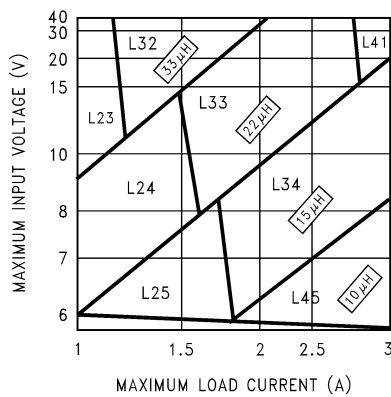
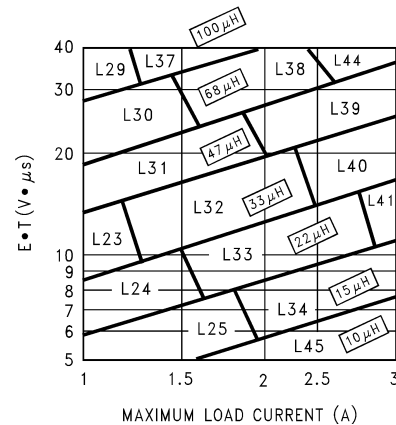

Figure 21. LM2676-3.3
Figure 24. LM2676-ADJ
Step 3: Determine the inductor required by using one of the four nomographs, Figure 21 through Figure 24. Table 1 provides a specific manufacturer and part number for the inductor.
Step 5: Determine an input capacitor from Table 8 or Table 9 for fixed output voltage applications. Use Table 3 or Table 4 to find the specific capacitor type. For adjustable output circuits select a capacitor from Table 3 or Table 4 with a sufficient working voltage (WV) rating greater than $V_{in\ max}$, and an rms current rating greater than one-half the maximum load current (2 or more capacitors in parallel may be required).
Step 3: Use the nomograph for the 3.3V device, Figure 21. The intersection of the 16V horizontal line ($V_{in\ max}$) and the 2.5A vertical line ($I_{load\ max}$) indicates that L33, a 22 μ H inductor, is required.
Step 3: To use the nomograph for the adjustable device, Figure 24, requires a calculation of the inductor Volt•microsecond constant ($E \cdot T$ expressed in $V \cdot \mu\text{s}$) from the following formula:
Using Figure 24, the intersection of 27V• μs horizontally and the 2A vertical line ($I_{load \text{ max}}$) indicates that L38, a 68 μH inductor, should be used.
When using the adjustable device in low voltage applications (less than 3V output), if the nomograph, Figure 24, selects an inductance of 22 μH or less, Table 12 and Table 13 do not provide an output capacitor solution. With these conditions the number of output capacitors required for stable operation becomes impractical. It is recommended to use either a 33 μH or 47 μH inductor and the output capacitors from Table 12 or Table 13.